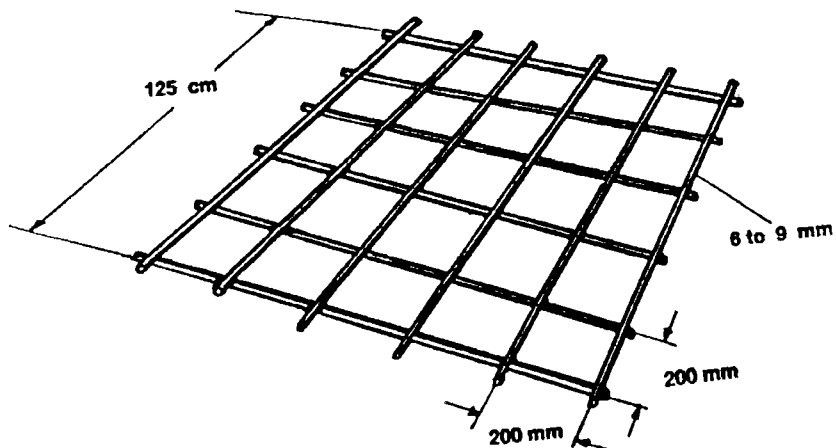

Figure 6. Reinforcement grid
- Make or cut a wire mesh or grid to lie inside the pit. The wires can be 6 to 9 millimetres thick and about 200 millimetres apart (see Figure 6). Cut a hole about 250 millimetres in diameter in the middle of the grid.